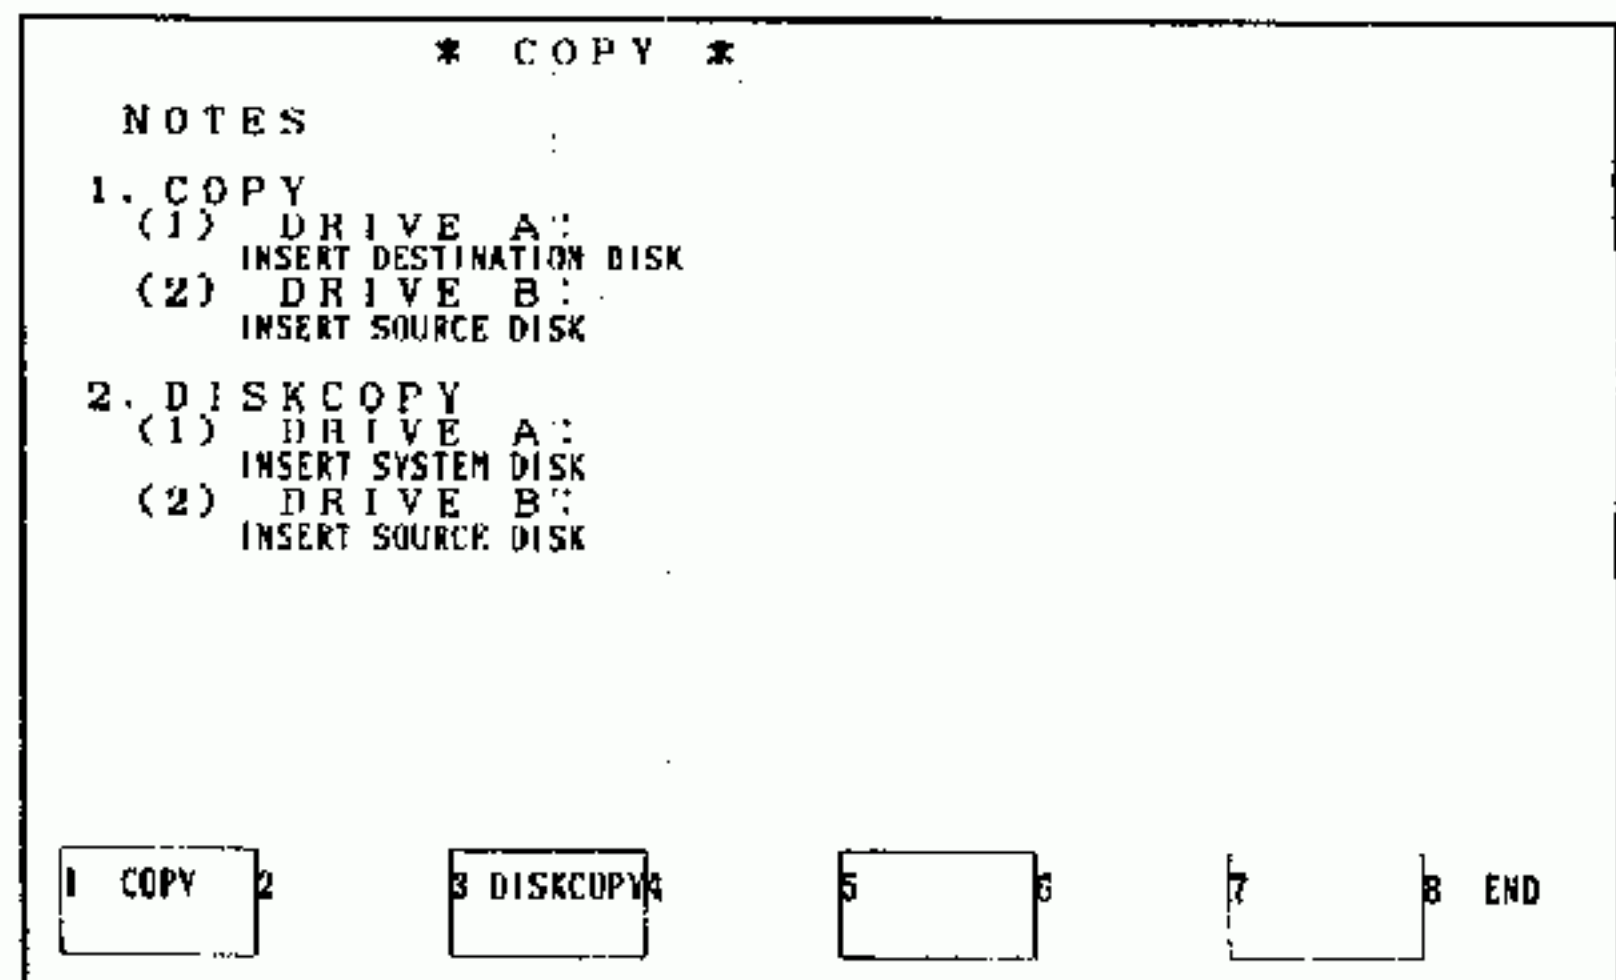

Fig. 5.2.156
2. Depressing "CANCEL" key (Fig. 5.2.158) returns to the display shown in Fig. 5.2.156.
2. Depressing "CANCEL" key (Fig. 5.2.159) returns to the display shown in Fig. 5.2.156.